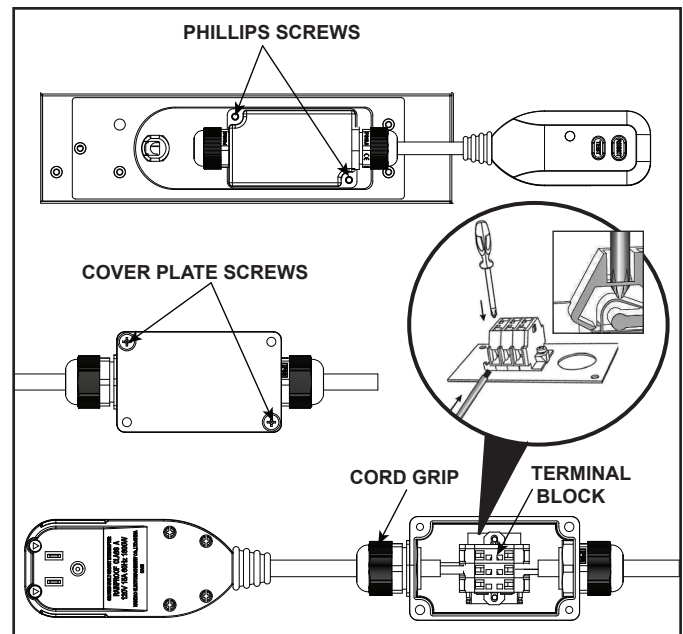

Figure 4.11
1. Remove the terminal block housing on the right top end of the appliance, by removing two phillips screws. On the underside of the terminal block housing remove the two remaining phillips screws attaching the cover plate to the housing. See Figure 4.11.